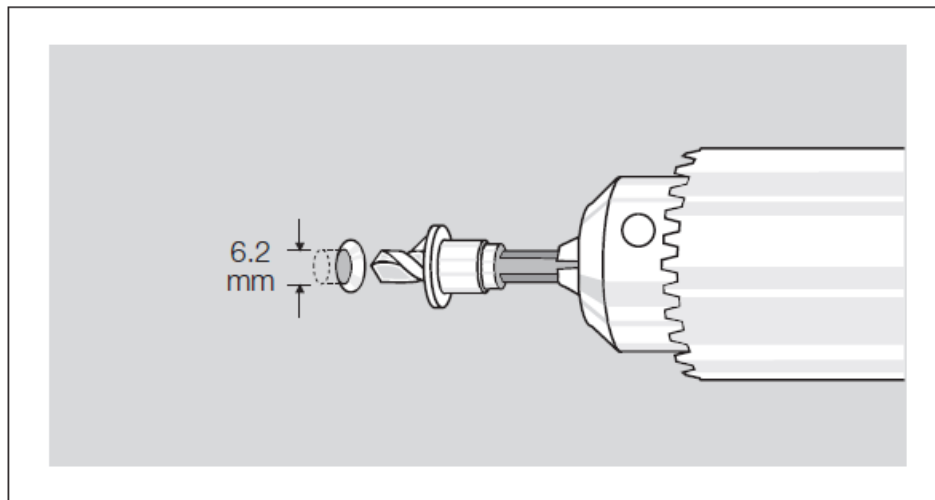
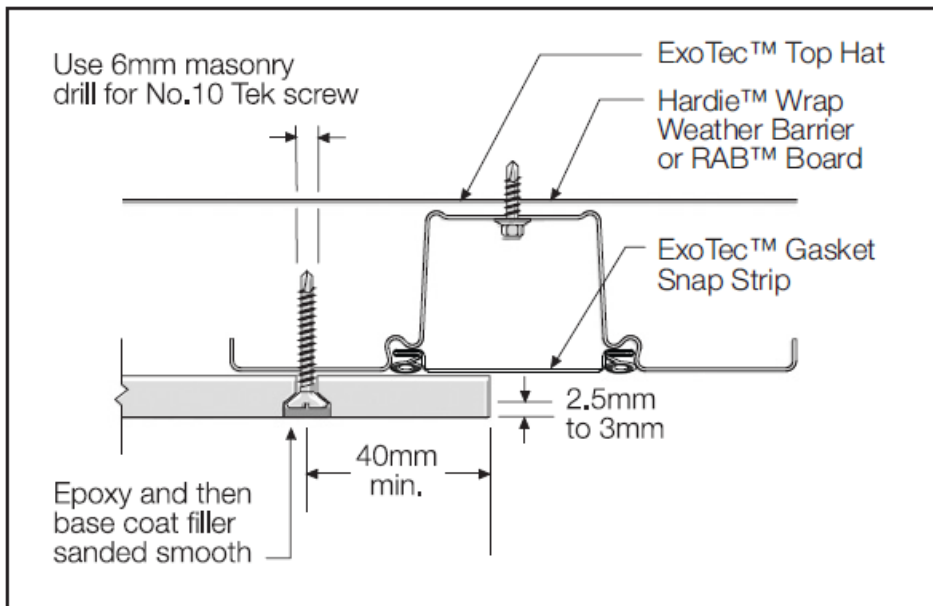

FIGURE 10 DRILL COUNTERSINK HOLE
FIGURE 15 COUNTERSUNK FASTENER DETAIL
2. Drill clearance holes into ExoTec™ Facade Panel, for No.10 gauge screws using a 6mm countersunk masonry drill, which provides a 6.2 to 6.3mm diameter hole, see Figure 10. Countersink hole to a depth of 2.5mm to 3mm. This is measured from the top of the screw to the top of the sheet, see Figure 15.